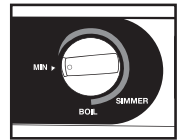

Fig. 6
1. Turn the Temperature Control knob to the MIN position. (Fig. 6) Press the switch to the OFF position and unplug the pasta cooker.